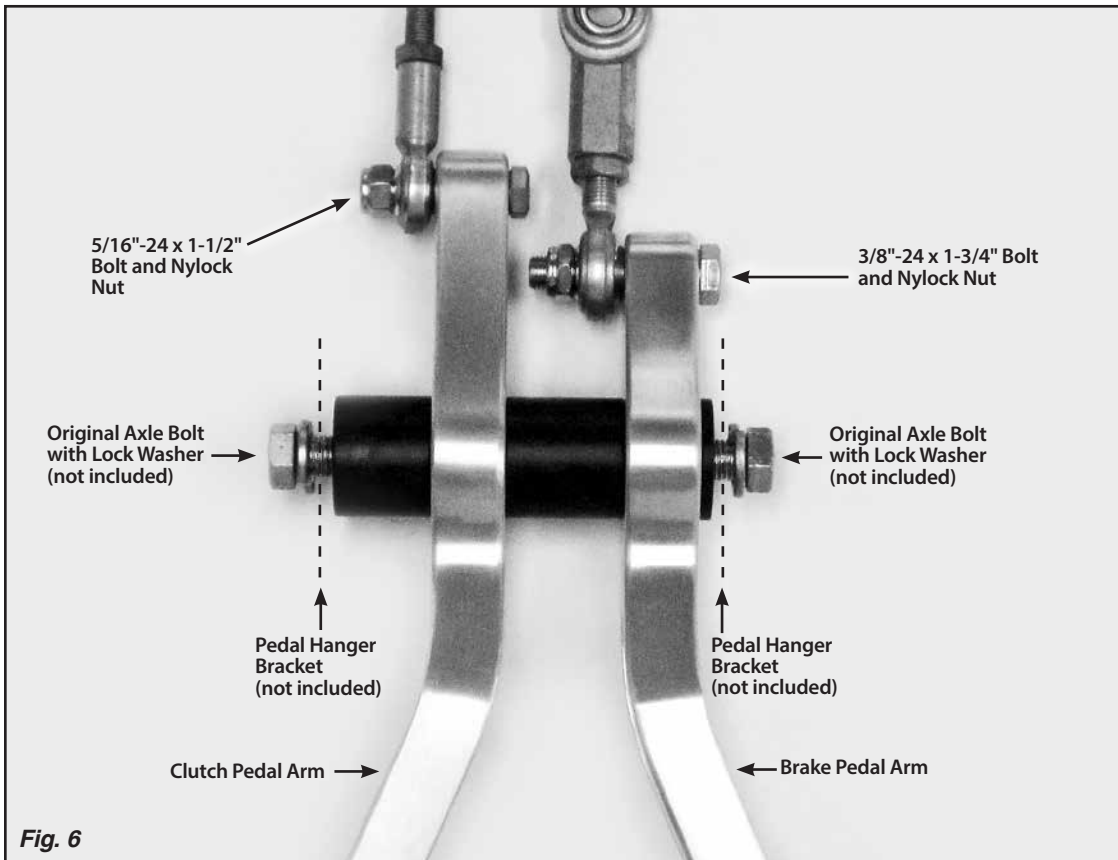

Fig. 6
Step 5: Connect the rod ends (not included) to the Brake and Clutch Pedal Arms. The Brake Pedal Arm uses the supplied 3/8"-24 x 1-3/4" bolt and nylock nut. The Clutch Pedal Arm uses the supplied 5/16"-24 x 1-1/2" bolt and nylock nut. **Fig. 6** Before tightening the nuts, adjust the Brake and Clutch Pedal Arms to the desired height. This can be done by turning the rod ends in or out. Tighten the nuts after the adjustments are finished.